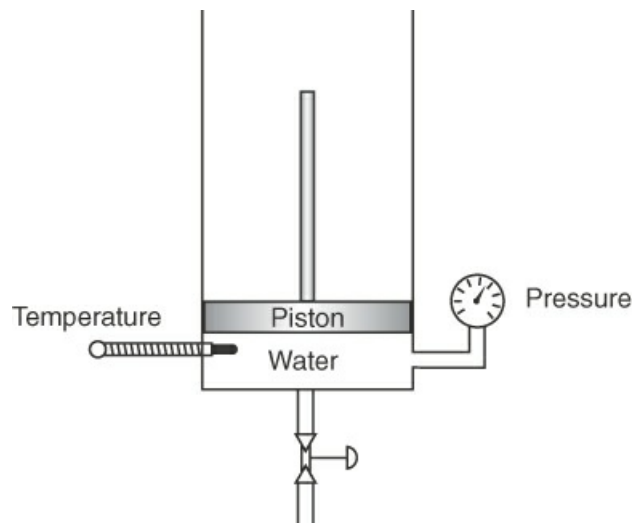
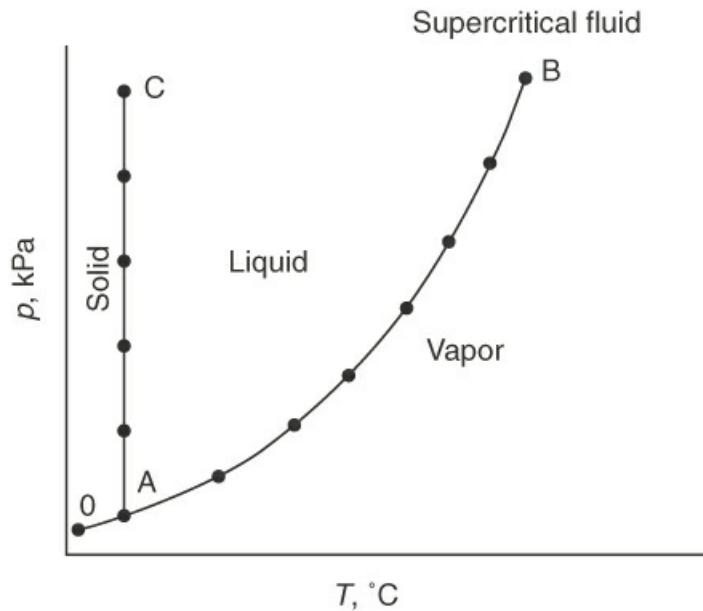
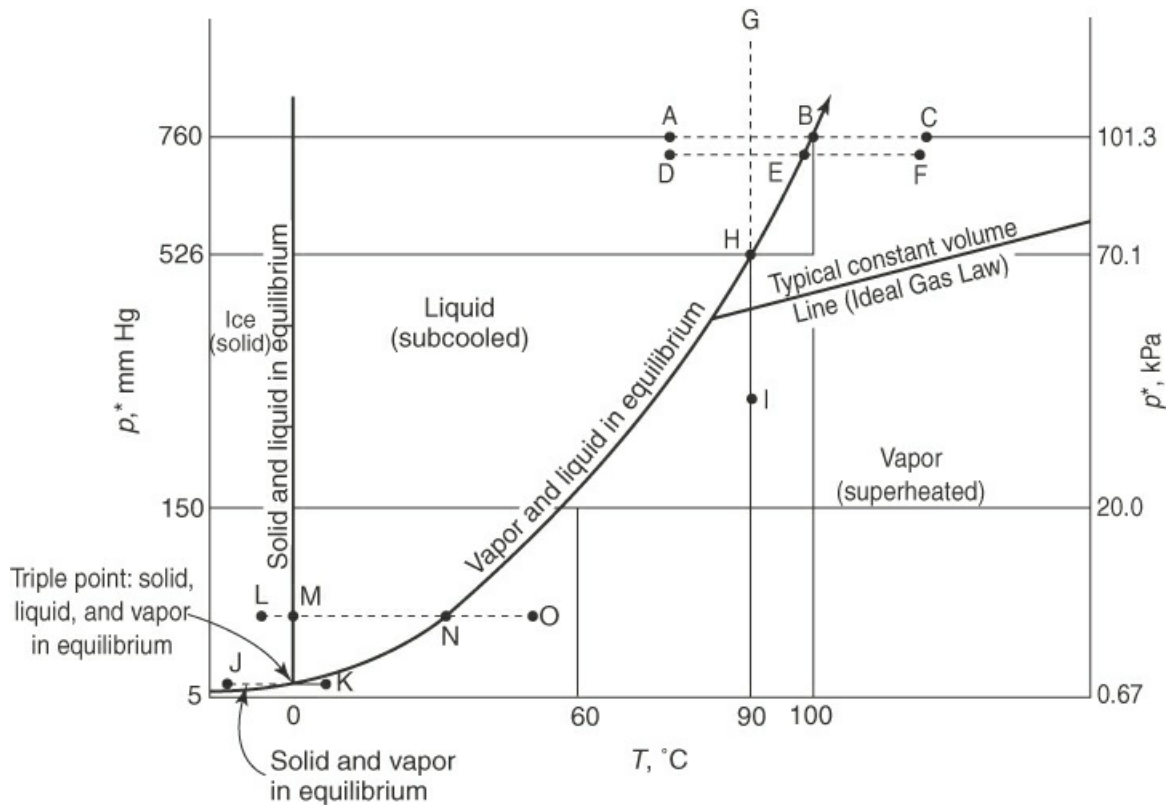

Figure 7.1 Apparatus used to explore the p , \hat{V} , and T properties of water
Figure 7.2 Results of the experiment of heating at constant volume shown on a phase diagram (p versus T at constant \hat{V})
Figure 7.3 Various common processes as represented on a p^* - T diagram
Suppose you carry out some experiments with the apparatus shown in Figure 7.1. Place a lump of ice in the chamber below the piston, and evacuate the chamber to remove all air (you want to retain only pure water in the chamber). Fix the volume of the chamber by fixing the position of the piston, and start slowly (so that the phases of water that result will be in equilibrium) heating the ice. If you plot the measured pressures as a function of temperature, you will get Figure 7.2, a phase diagram in which all of the measurements made have been fitted by a continuous smooth curve for clarity.
The initial conditions of p and T in the chamber are at point O in Figure 7.2 with the solid in equilibrium with the vapor.
We next take up some terminology associated with processes that are conveniently represented on a p^* - T phase chart such as Figure 7.3 (in the definitions of terms that follow, the letters in parentheses refer to the corresponding process denoted in Figure 7.3 by the same sequence of letters):
- **Supercritical region:** p - T values above the critical point (not shown in Figure 7.3).
In Figure 7.3, the process of evaporation (A to C) and condensation (C to A) of water at 1 atm is represented by the line ABC with the phase transformation occurring at 100°C. Suppose that you went to the top of Pikes Peak and repeated the process of evaporation and condensation in the open air. What would happen then? The process would be the same (points DEF) with the exception of the temperature and pressure at which the water would begin to boil, or condense. Since the pressure of the atmosphere at the top of Pikes Peak is lower than 101.3 kPa, the water would start to boil at a lower temperature. Some unfortunate consequences might result if you expected to kill certain types of disease-causing bacteria by boiling the water! In addition, it will take longer to cook rice at that elevation due to the lower boiling point for water at higher elevations.
A pure compound can change phase at constant volume from a liquid to a vapor, or the reverse, via a constant temperature process as well as a constant pressure process. A process of **vaporization**, or **condensation, at constant temperature** is illustrated by the lines GHI or IHG, respectively, in Figure 7.3. Water would vaporize or condense at constant temperature as the pressure reached point H on the vapor-pressure curve. The change that occurs at H is the increase or decrease in the fraction of vapor, or liquid, respectively, at the fixed temperature. The pressure does not change until all of the vapor, or liquid, has completed the phase transition.
Then, as the piston still rises (i.e., as \hat{v} increases), both the pressure and temperature remain constant until all of the liquid is vaporized by point B on the saturated vapor line. Subsequently, starting from point B, as the pressure reduces, the value of \hat{v} can be calculated via an ideal or real gas equation. Compression at constant T_2 is just a reversal of the process at T_1 . The dots in Figure 7.4 represent just the measurements made when saturation of liquid and vapor coexist and are deemed to form the envelope for the **two-phase** region that from a different angle appears in Figures 7.2 and 7.3 as the vapor-pressure curve. The two-phase region (e.g., A to B or D to C) represents the conditions under which liquid and vapor can exist at equilibrium. Note from Figure 7.4 the discontinuous change in the specific volume in going from a liquid to a solid at the triple point. In other words, water expands when it freezes, and this is why ships trapped in the polar ice can be crushed by the force of the expanding ice. By comparing Figures 7.3 and 7.4, you can see that lines AB and CD in the p - \hat{v} phase diagram (Figure 7.4) correspond to a single point each in the p - T diagram (Figure 7.3).
Figures 7.3 and 7.4 can be reconciled by looking at the three-dimensional surface that illustrates the p - \hat{V} - T (see Figure 7.6).
You can see that vapor pressure is the two-dimensional projection, yielding a curve, of a three-dimensional surface into the $p-T$ plane. Note that the vapor-pressure curve in a $p-T$ plane is actually a surface in the three-dimensional representation because a vapor and liquid at equilibrium are at the same temperature (see Figure 7.6). Figure 7.3 thus proves to be a portion of the complete region shown in Figure 7.6.